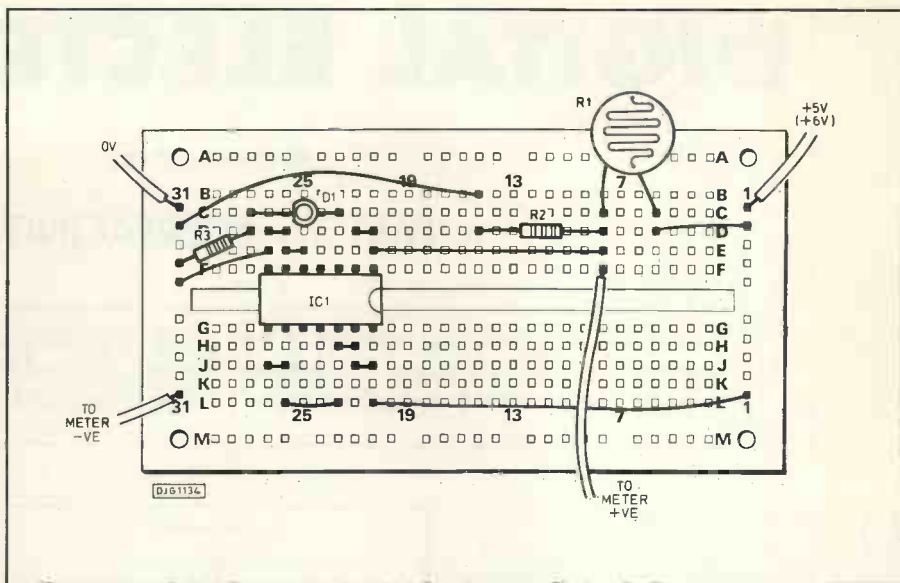

Fig.5. Breadboard layout of circuits for Figs. 4 and 6.
1. Connect the circuit as shown in Fig. 5. For the present do not include the components on the lower half of the board (IC1, D1, R3), which will be added later.